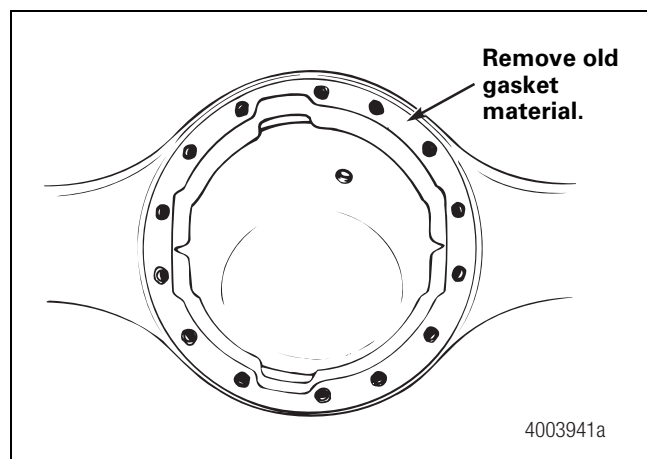

Figure 1
1. Remove all old gasket material from both the axle and the carrier surfaces. Figure 1.
2. Clean the surfaces where you will apply the silicone gasket material. Remove all oil, grease, dirt and moisture. Figure 1.